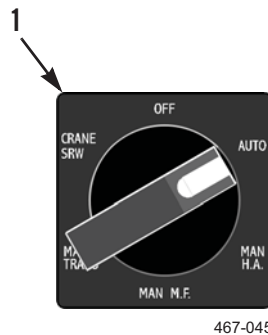

Figure 20. MODE Switch at AUTO.
1. With engine at idling speed, set MODE switch (Figure 20, Item 1) to AUTO (PLS: TM 9-2320-364-14&P, HEMTT: TM 9-2320-326-14&P).